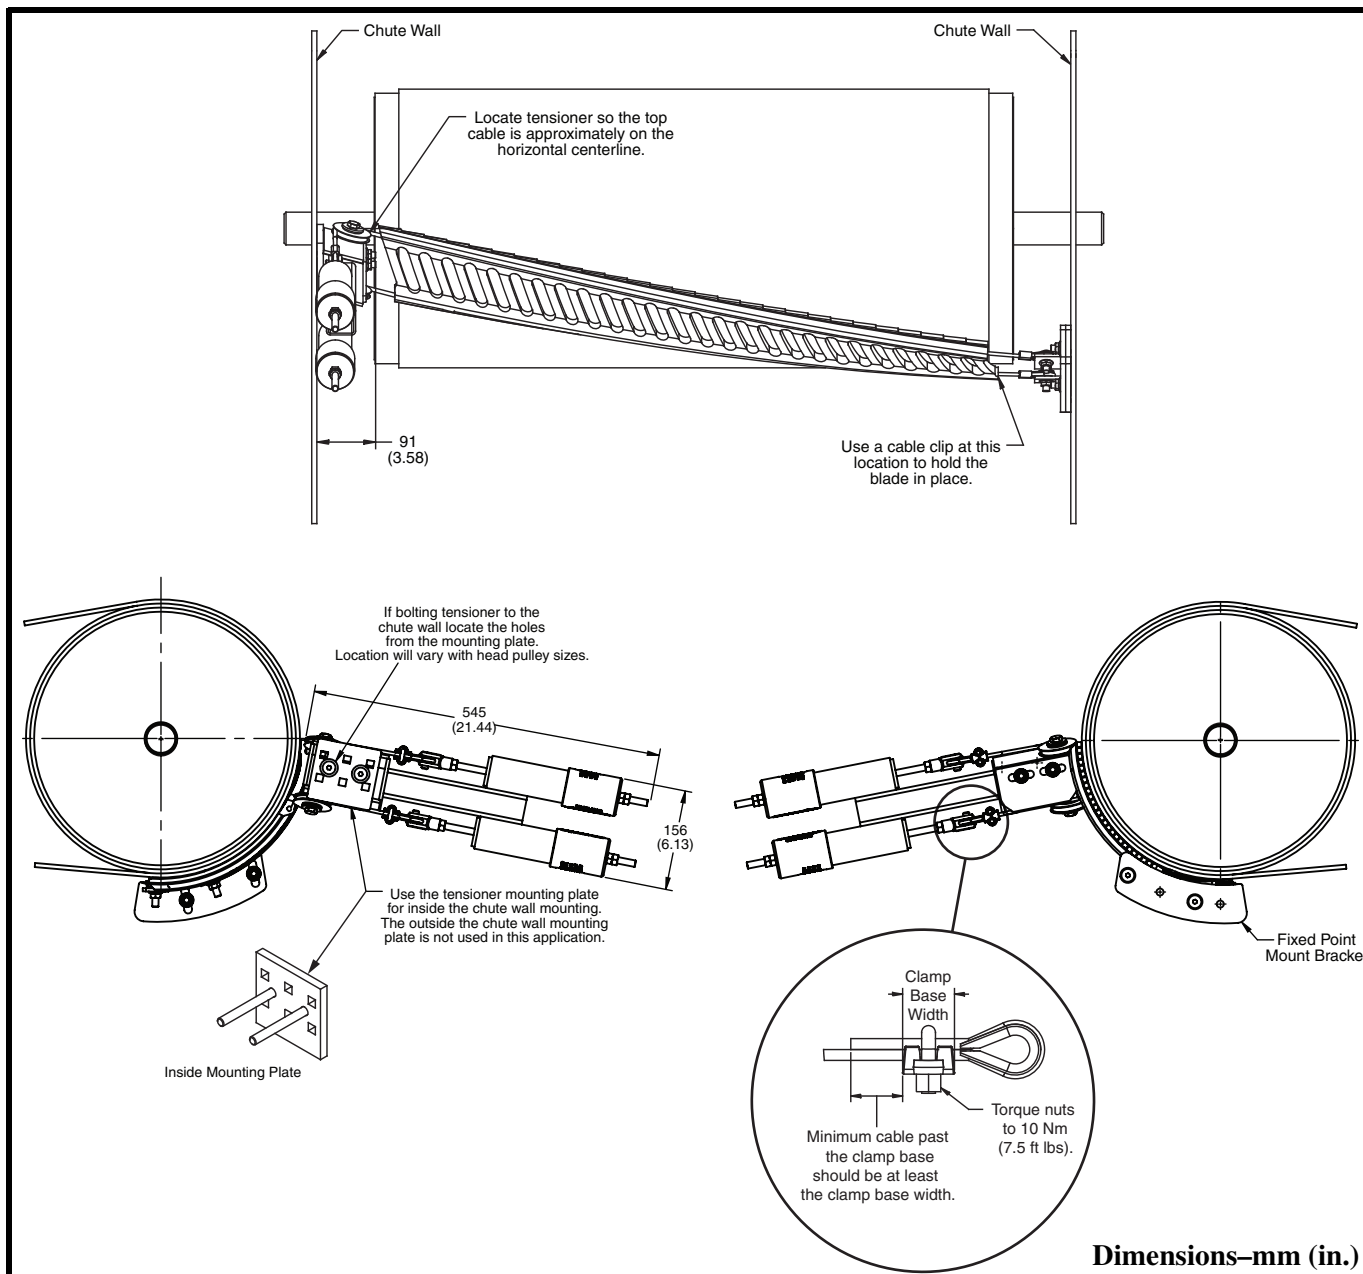

Figure 10. Installing Tensioner on Inside Chute Wall
- c. Position tensioner in desired location free from obstructions as shown in Figure 10 or 11.
3. Assemble cable eyelet and clamp as shown in Figure 10 or 11.